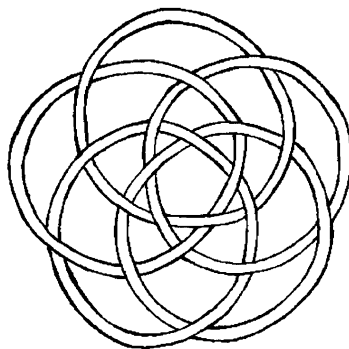

fig 2
A drawing of a 5 bight by 5 lead TH knot is shown in figure 2. This knot is quite possible, but requires 5 separate cords to tie.
- 2 Make a second larger overhand loop overlapping the first loop (fig 2), then lift up the smaller loop and curl the working end under and around the smaller loop (fig 3).